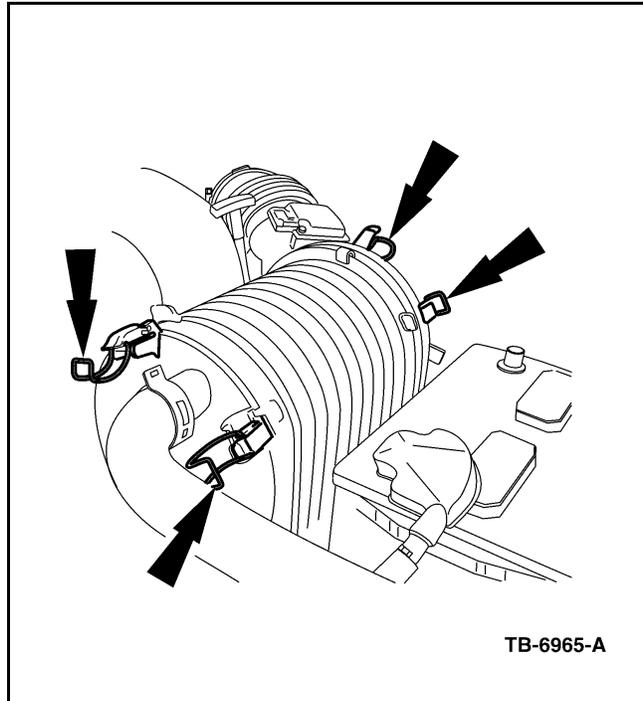

Figure 1 - Article 03-1-9
1. Release 4 toggle clamps located on top of assembly (Figure 1).